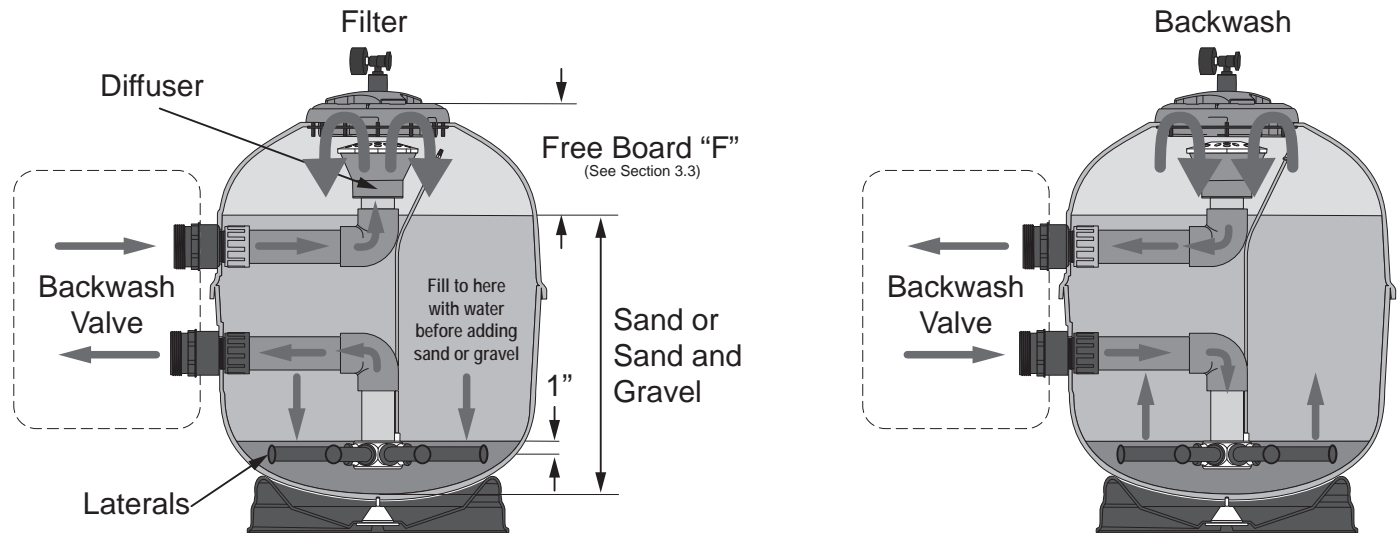

Figure 2. Filter and Backwash Function
Jandy high rate sand filters most commonly use sand as a filter medium, or sand over a shallow layer of pea gravel. See **Figure 2**. The use of filter media other than sand is also described in Section 3.3.1.
- If pea gravel is used, it will cover the laterals to approximately 1" above the laterals. See **Figure 2**.
- Fill the filter halfway with water before loading the filter media. See **Figure 2**.